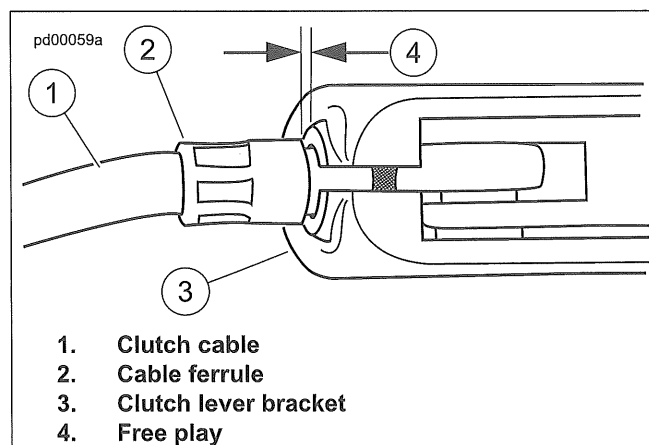
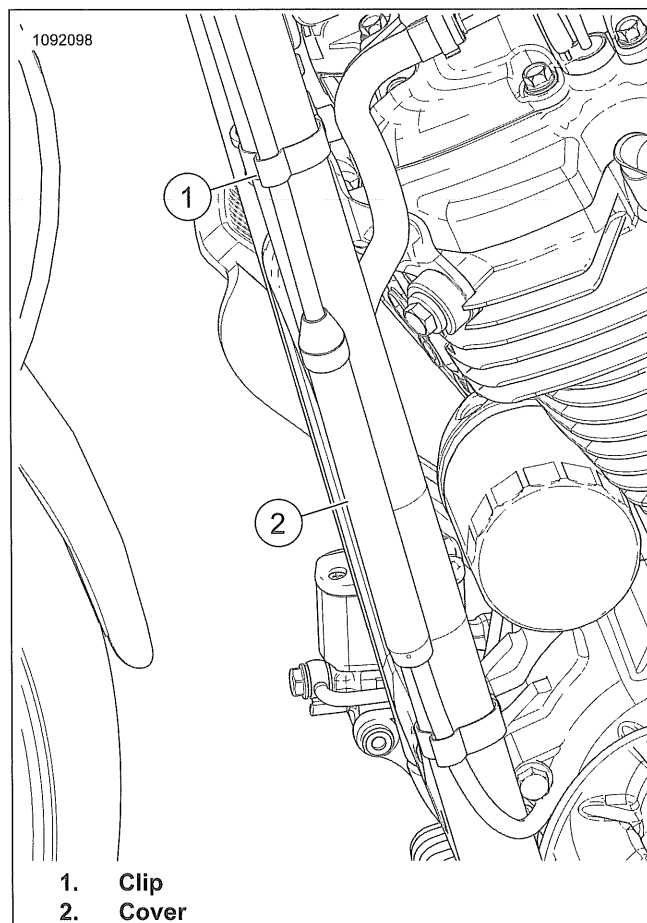

Figure 2-23. Clutch Cable Free Play
Figure 2-24. Clutch Cover and Clip
1. See Figure 2-23. Check free play.
- a. Pull clutch cable ferrule (2) away from clutch lever bracket (3).
- b. Check free play (4) dimension. Refer to Table 2-10.
1. See Figure 2-24. Access two piece clutch cable.
- a. Remove spring clip (1).
- b. Slide cover (2) up.
9. See Figure 2-23. Spring force is sufficient to ensure correct system freeplay.
- a. Check free-play (4) at clutch lever.
11. See Figure 2-24. Slide cover down and reinstall spring clip (1).